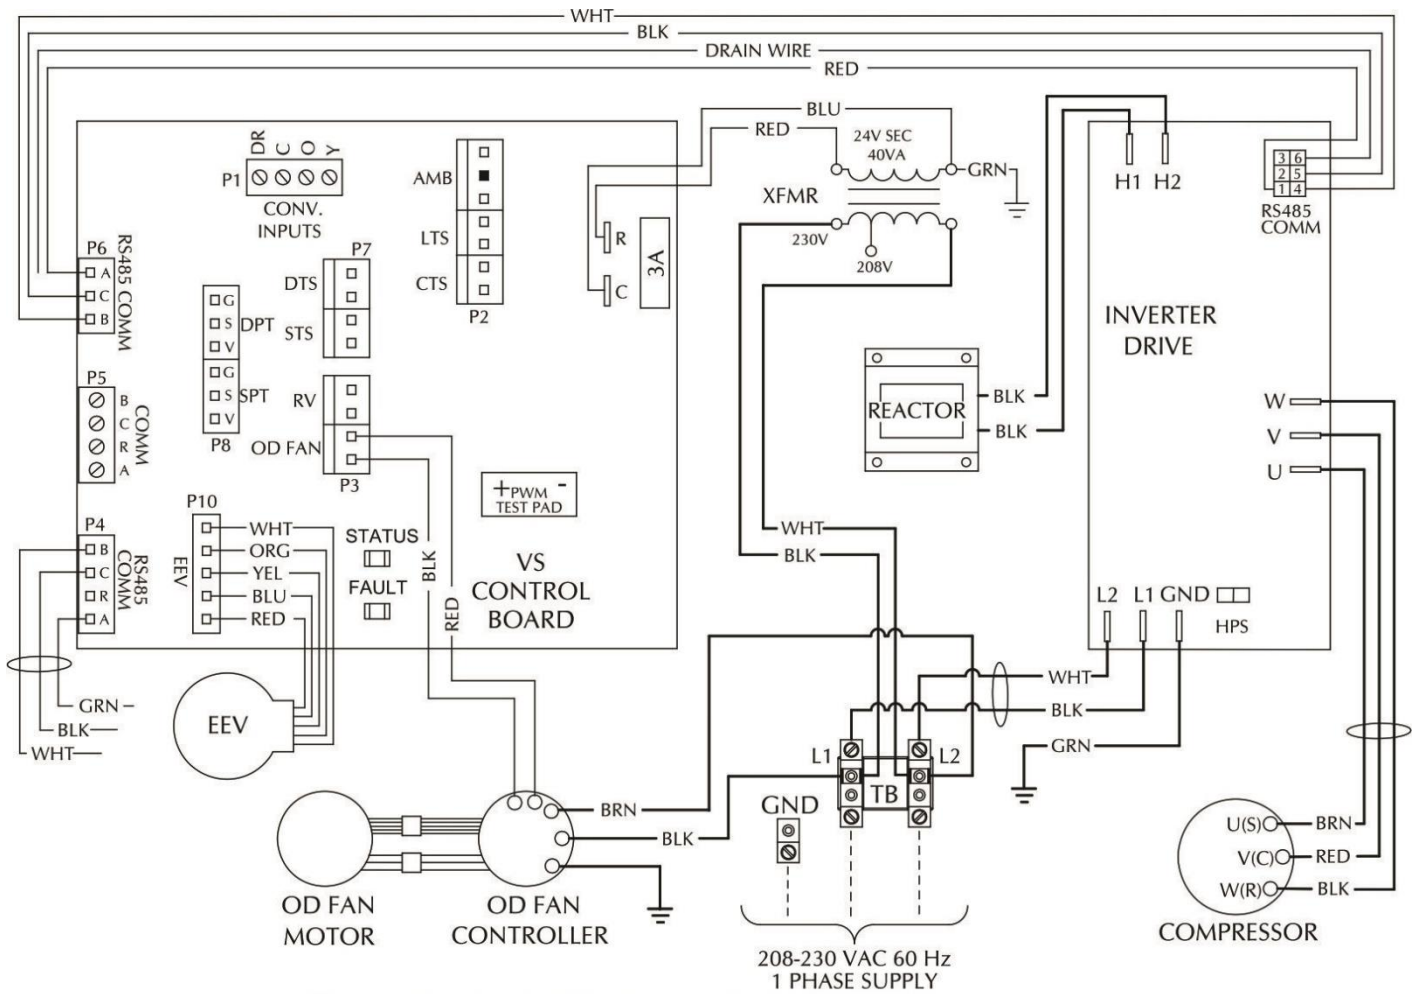

Figure 8 - Variable Capacity Wiring Diagram
Figure 8 is a wiring diagram of a variable capacity heat pump outdoor unit. Starting at the terminal block (TB) where the field wiring is connected to, confirm all unit wiring is per the unit wiring diagram. Unit wiring attached to L1 at TB should include 3 black wires. Unit wiring attached to L2 at TB should include two white wires and one brown wire. Confirm L1 wires connect to L1 on the inverter drive and the 208 or 230 VAC control transformer tap. Confirm 24VAC Red wire is connected directly across from the black L1 wire on the control transformer and that the 24VAC Red wire is connected to the correct place on the VS control board as shown in the diagram.